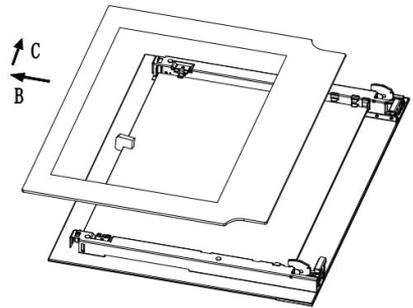

Fig.7
2. Take out inner glass slowly (Fig.7)